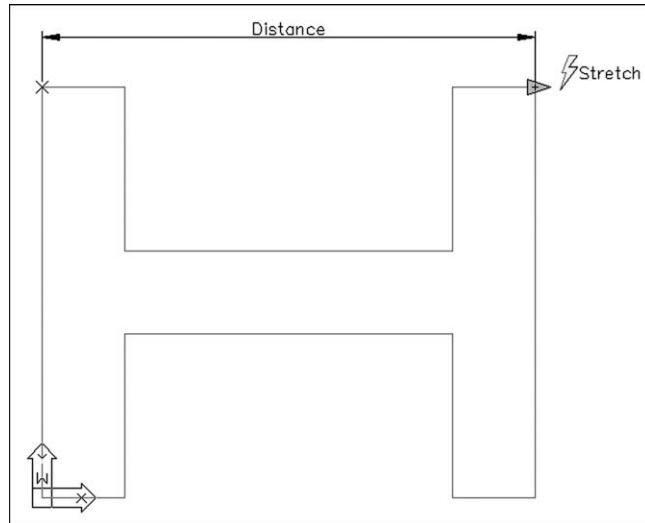

Figure 30.4 The Block Editor screen for BEAM-1 after the Parameters and Actions operations.
- 8 Figure 30.4 displays the Block Editor screen at this stage of the dynamic block creation.